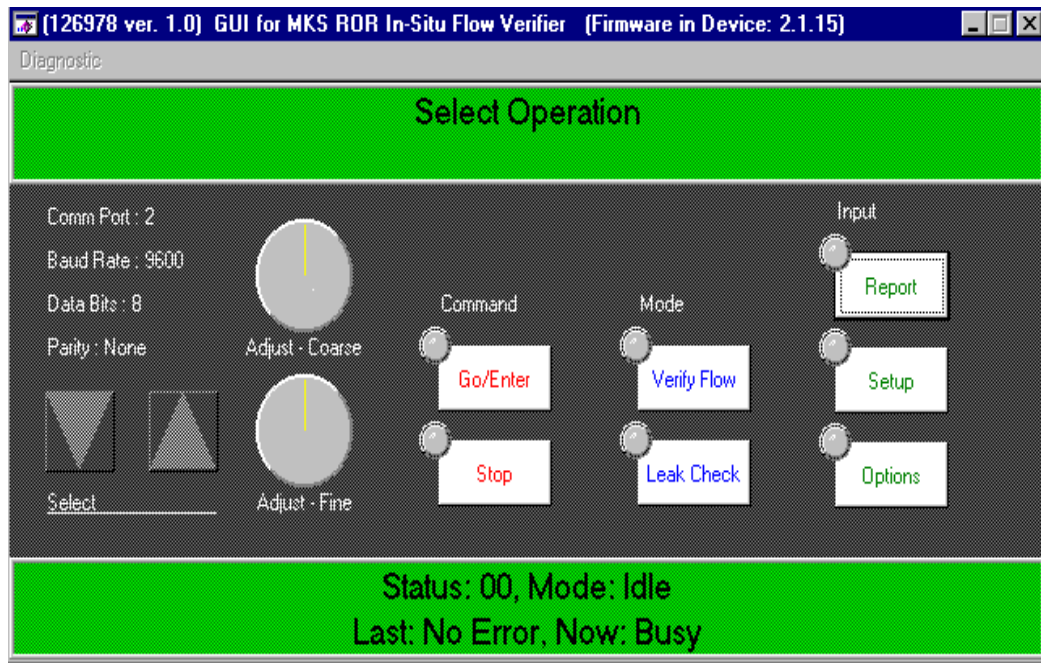

Figure 7: Visual Interface of the GBR3A Control Software
The Visual Interface (VI) is a software package that controls the GBR3A from a standard Windows 95/98 personal computer, using RS-232 communication. The VI features a virtual controller front panel, shown in Figure 7.